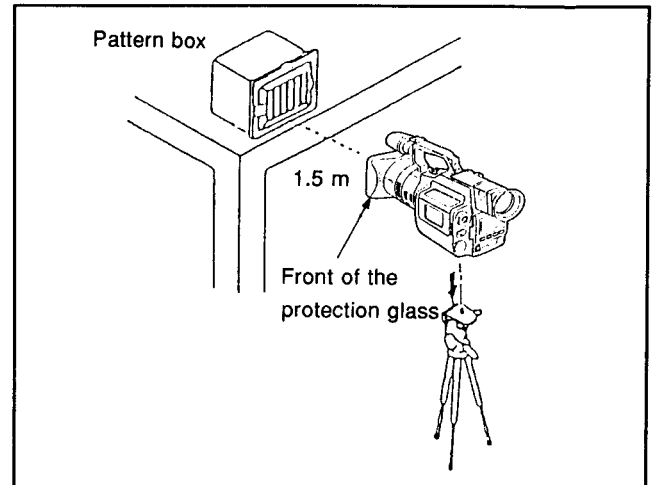

Fig. 6-1-3.
- 1) Connect the equipment for adjustments according to Fig. 6-1-3.
- 2) By setting the "Forced Camera Power ON" mode, the camera power can be turned on with the cabinet (L) (standby switch, start/stop switch, zoom switch) removed. However, zoom operations cannot be performed in this case.